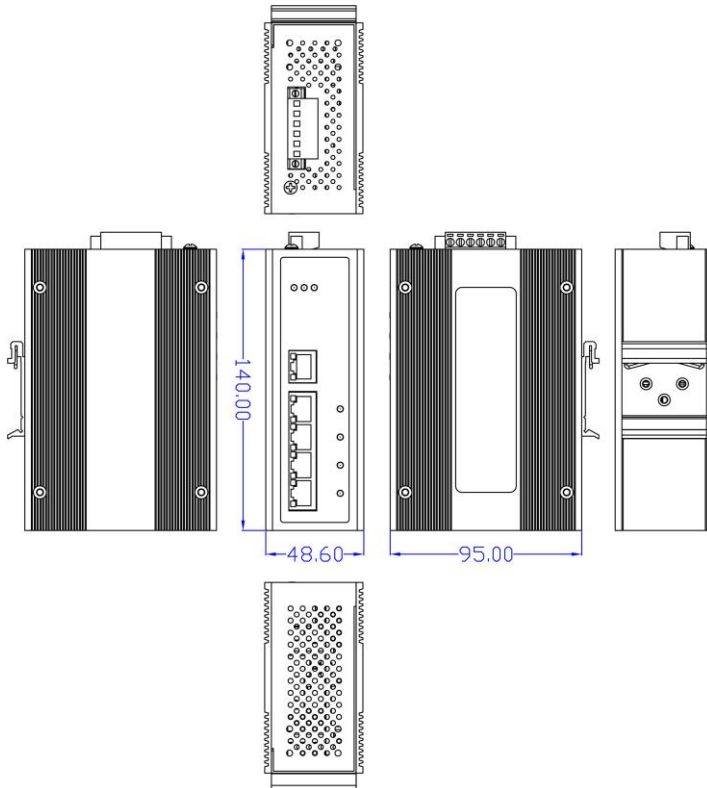

Figure-1: Mechanical Dimensions
5 port 10/100T(X) with 4 PoE ports. Industrial Switch dimensions (W x D x H) is 48.6mm x 95mm x 140mm, the detail dimensions as **Figure-1**